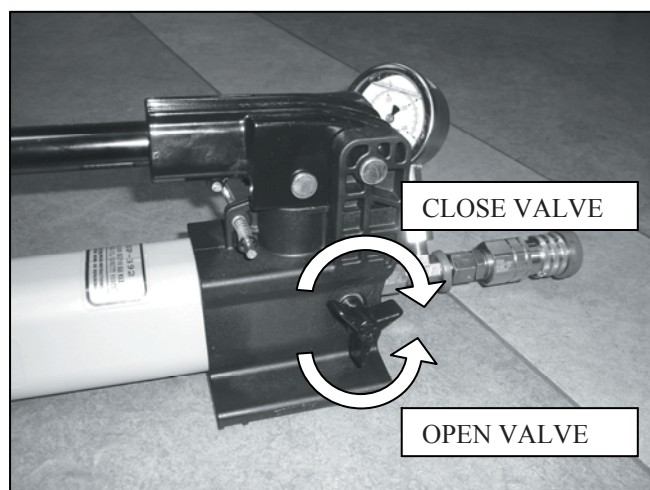

Fig. 5
1. Make sure that the pump valve is open before connecting pump to mast jack. Open by turning wheel counter clockwise. See fig. 5.